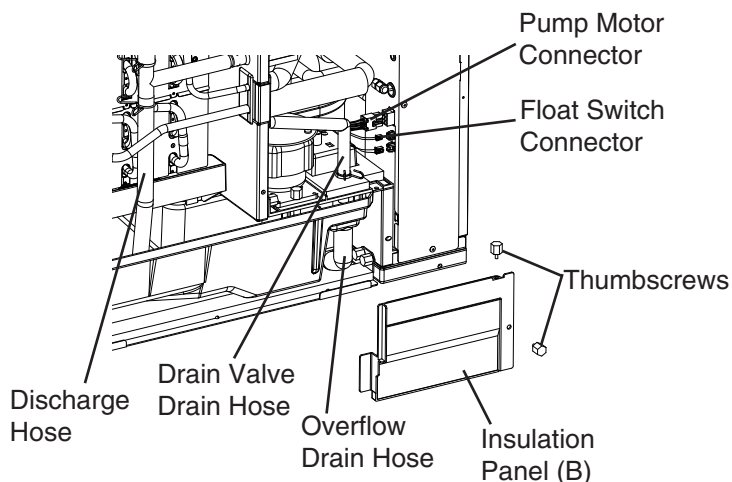

Fig. 10
- 7) Remove the front panel, then remove insulation panel (A) (the large insulation panel in front of the evaporator) by lifting up the panel slightly and pulling it towards you.
- a. Remove the 2 thumbscrews securing insulation panel (B), then remove insulation panel (B). See Fig. 10.